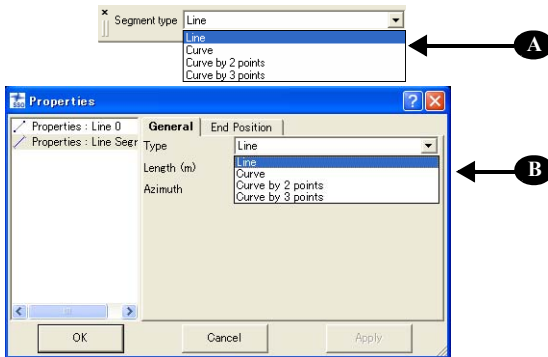

Figure 5-47. Selecting Segment Type
To create a new line or to edit an existing line, select any type of segment from the list in the *Segment Type* field (Figure 5-47), or the
*Type* field on the *General* tab of the segment *Properties* dialog box (Figure 5-47), respectively.